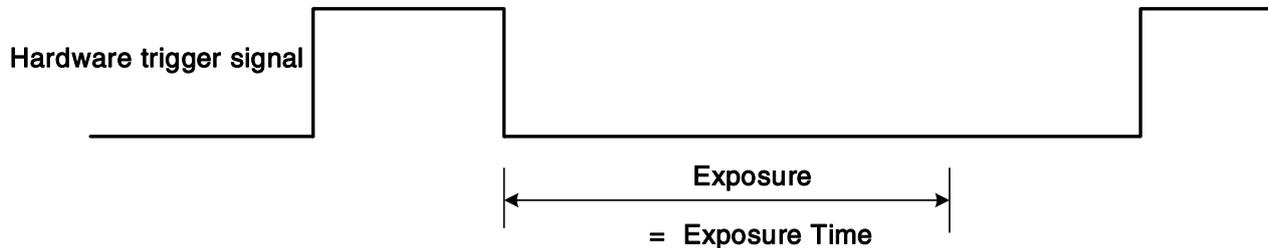

Figure 8-24 The sequence diagram in falling edge trigger of Timed exposure mode
- If falling edge triggering is enabled, exposure starts when the trigger signal falls and continue until the exposure time has expired, as shown in Figure 8-24